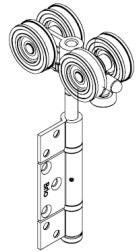

Figure 25:
- E. Locate the Intermediate Hanger in the head track, remove the hanger attachment screws from the panel, line up the holes in the panel and the hanger, then attach the hanger to the panel. If the holes do not align, depress the button in the hanger and use a 5mm Allen wrench to wind the hanger bolt in the required direction to allow the holes to line up (Figure 25).